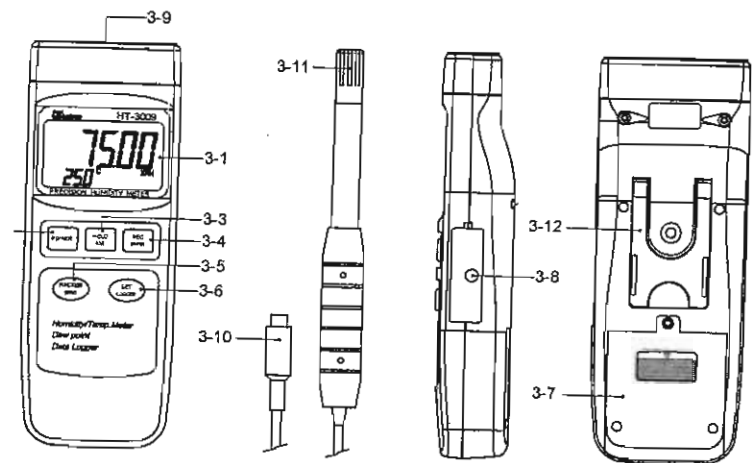

Fig. 1
- 1) Plug the " Probe Plug " (3-10, Fig. 1) into the " Probe Input Socket " (3-9, Fig. 1).
- 2) Power on the meter by pressing the " Power Button " (3-2, Fig. 1), the LCD shows the unit " %RH " & " °C " at the same time and measured value will show on the display (upper display is Humidity value, the lower display is the temperature value).
The procedures of " Dew point measurement " are same as the above " 4-1 Humidity and Temperature measurement " except select the " Dew point " function by pressing the " Function Button " (3-5, Fig. 1) once, the LCD will show the unit " DEW " & " °C (or °F). The upper display show the Dew point value, the lower display show the temperature value.
During the measurement, press the " Hold Button " (3-3, Fig. 1) once will hold the measured value & the LCD will display a " HOLD " symbol.
- * The data record function records the maximum and minimum readings. Press the " REC Button " (3-4, Fig. 1) once to start the Data Record function and there will be a " REC. " symbol on the display.
- a) Press the " REC Button " (3-4, Fig. 1) once, the " REC. MAX. " symbol along with the maximum value will appear on the display.
If intend to delete the maximum value, just press the " Hold Button " (3-3, Fig. 1) once, then the display will show the " REC. " symbol only & execute the memory function continuously.
- b) Press the " REC Button " (3-4, Fig. 1) again, the " REC. MIN. " symbol along with the minimum value will appear on the display.
If intend to delete the minimum value, just press the " Hold Button " (3-3, Fig. 1) once, then the display will show the " REC. " symbol only & execute the memory function continuously.
- a) Press the " REC Button " (3-4, Fig. 1) once to start the Data Record function and there will be a " REC. " symbol on the display.
Press the " Logger Button " (3-6, Fig. 1) once to start the Data Logger function. The upper display will show the sampling time in seconds (For example, 1, 2, 10, 30, 60, 600, 1800, 3600) once a while then revert to the normal display screen. In the same the top display will show the marker " A ", the marker " A " will be flashed per sampling time. Now the Data Logger function is executed.
Press the " Logger Button " (3-6, Fig. 1) once will save the data one time into the memory, at the same time the the marker " A " will be flashed once a while.
If Press the " Logger Button " (3-6, Fig. 1) once, both the mark " A ", upper display and lower display are flashed, it indicate the memory data already over 1000 no. and the memory is full.
- c) During the Data Logger function is executed, press the " Logger Button " (3-6, Fig. 1) once will stop to execute the data logger function, the mark " A " will disappeared. If press the " Logger Button " (3-6, Fig. 1) once again will continuous the Data Logger function.
- a. Hold the " Set Button " (3-6, Fig. 1) at least two seconds until the lower display show " COde ", then release the " Set Button ", the upper display will show " 1000 ".
After display show " COde 1000 ", push the " Enter Button " (3-4, Fig. 1) once will go to the following b. procedures.
* If push the " ESC Button " (3-3, Fig. 1) will escape the selecting function and return to the normal measuring display.
- b. One by one to press the " Set Button " (3-6, Fig. 1) once a while to select the five main function that show on the lower display as :
Use the " Set Button " to select the main function to " °F ", then one by one to press the " Function Button " (3-5, Fig. 1) a while will determine the default Temp. unit to °C or °F
After the function is determined, press the " Enter Button " (3-4, Fig. 1) to confirm and save the selection data into memory IC permanently. Press the " Esc Button " (3-3, Fig. 1) will revert to normal display screen.
Use the " Set Button " to select the main function to " SEC ", (SECOND) then one by one to press the " Function Button " (3-5, Fig. 1) a while will determine the default Data Logger sampling time value (seconds).
After the function is determined, press the " Enter Button " (3-4, Fig. 1) to confirm save the selection data into memory IC permanently. Press the " Esc Button " (3-3, Fig. 1) will revert to normal display screen.
Use the " Set Button " to select the main function to " Cnt " (count), then the upper display will show the balance data numbers that exist into the memory (allow memorize data no.). Press the " Esc Button " (3-3, Fig. 1) will revert to normal display screen.
2) Press the " Function Button " (3-5, Fig. 1) once, the upper display will show " 0 ", if intend to clear the existing saving data from the memory, just press the " Enter Button " (3-4, Fig. 1) to confirm, then the existing data will clear from the memory IC.
Before Press the " Function Button " (3-5, Fig. 1) to confirm, it can press the " Esc Button " (3-3, Fig. 1) to exist the clear function and the data will be not cleared.
Use the " Set Button " to select the main function to " OFF ", then one by one to press the " Function Button " (3-5, Fig. 1) a while will determine the default the power management system is Auto Power Off enable or disable.
After the function is determined, press the " Enter Button " (3-4, Fig. 1) to save the selection function into memory IC permanently. Press the " Esc Button " (3-3, Fig. 1) will revert to normal display screen.
- 2) Press the " Send Button " (3-5, Fig. 1) at least 2 seconds until the lower display show " 232 ", then release the button.
- 3) Push the " Send Button " (3-5, Fig. 1) once, then both the upper and the lower display will flash slowly, at the same the storage data logger data will be send out the meter from the " RS-232 Output Terminal " (3-8, Fig. 1).
The instrument has RS232 PC serial interface via a 3.5 mm terminal (3-8, Fig. 1).